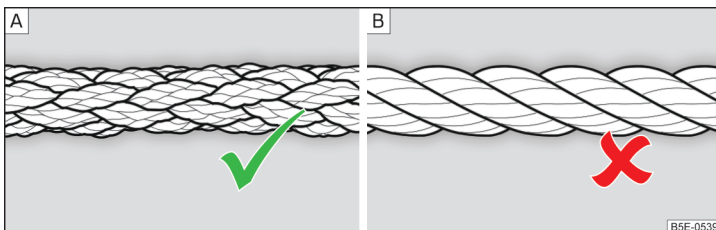

Fig. 94 Braided tow rope / Spiral tow rope
For towing using a tow rope, use only a braided synthetic fibre rope » fig. 94 -
- Do not use spiral rope for towing » fig. 94- [B], the towing eye may unscrew from the vehicle - There is a risk of an accident.